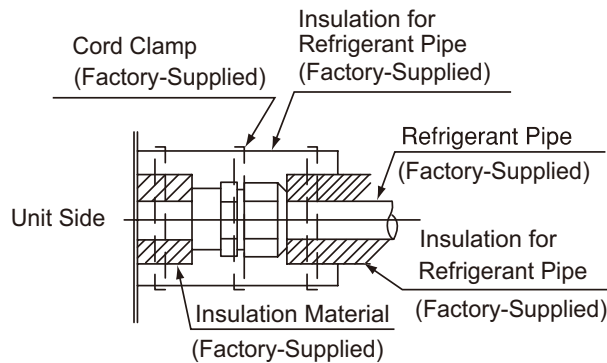

Fig. 5.3 Insulation on Pipes
- (3) After connecting the refrigerant piping, seal the refrigerant pipes by using the factory-supplied insulation material as shown in Fig 5.3.